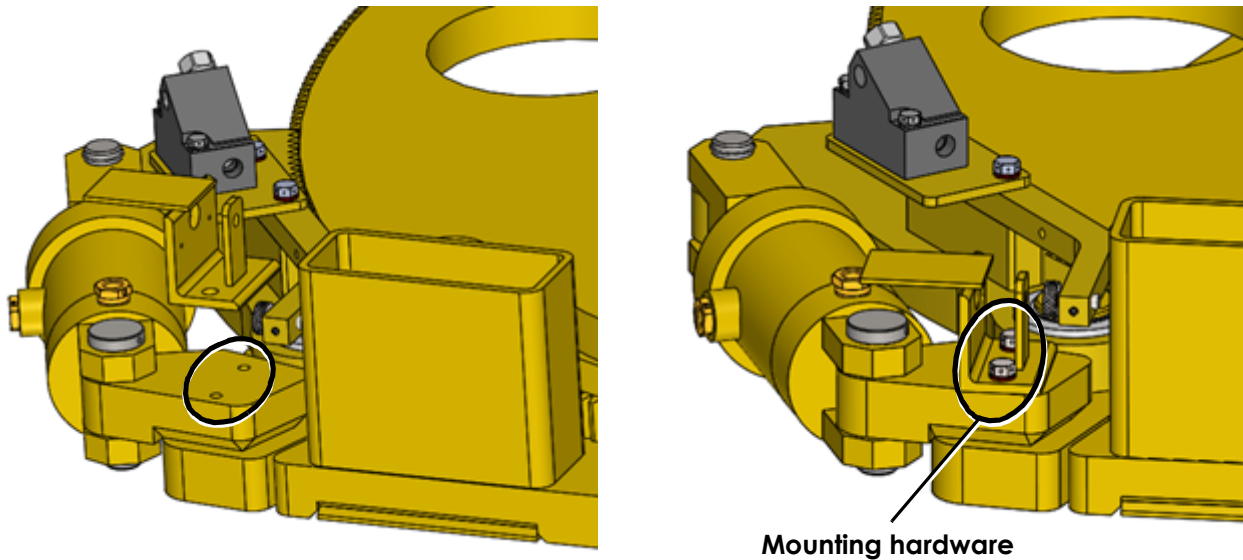

Figure 3: Mounting Bracket Installation
2. Install the handler lock sensor bracket with two 1/2-13UNC x 1" hex head bolts and two 1/2" Nord-Lock washers. See Figure 3.